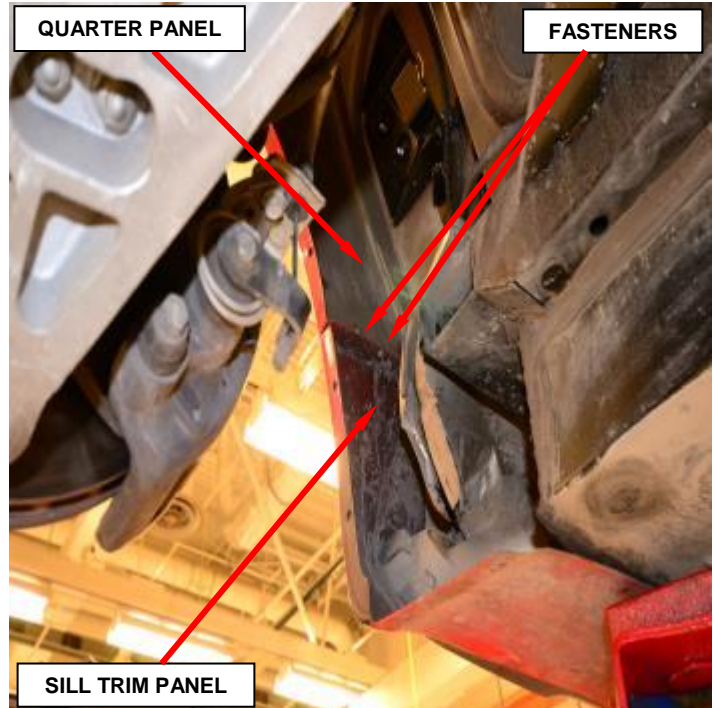

Figure 36 – Sill Trim Panel
- l. Remove and save the two fasteners securing the sill trim panel to the quarter panel (Figure 36).